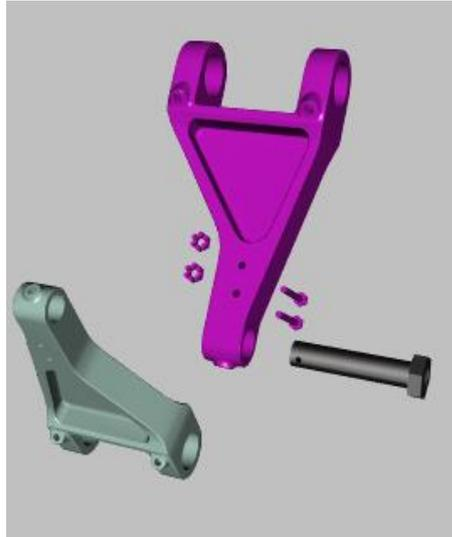

Fig. 6
5. Select the grouped Items of the exploded assembly, and explode them in the other direction (see Fig. 6).